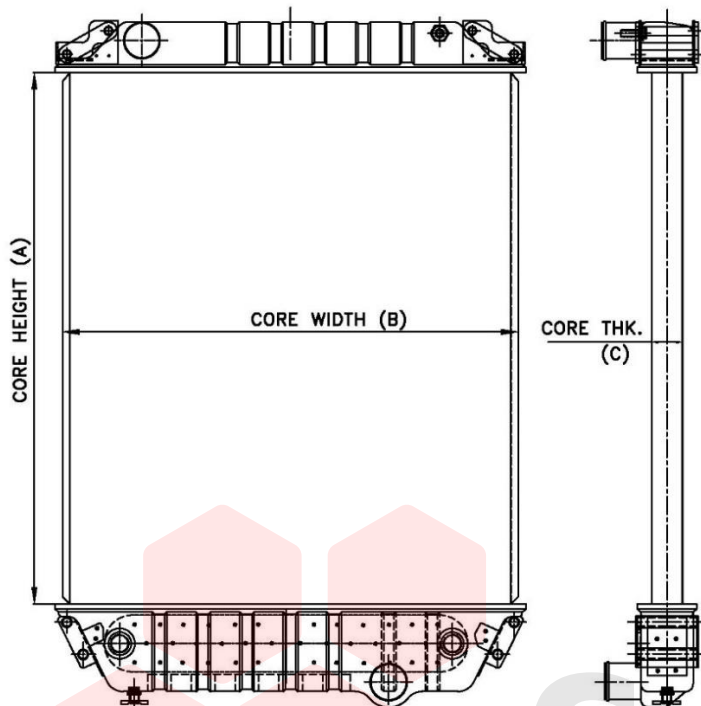
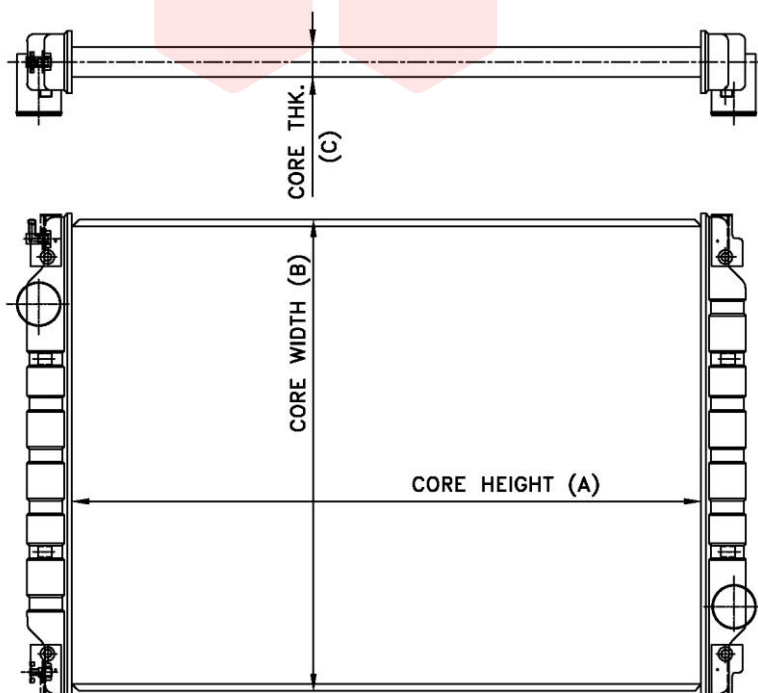

fig. 1
fig. 2
- a. Measure the height: As you can see from the diagrams, the core height on a down flow radiator is measured from top to bottom; the "height" on a cross flow radiator is measured from side to side. An easy way to remember this is that CORE HEIGHT IS ALWAYS MEASURED BETWEEN THE HEADERS, no matter how the radiator sits in the truck. Core height is represented by measurement (A) in the diagrams (fig 1 & fig 2).
- b. Measure the width: The measurement is over the side channel. The width is represented by (B) in the diagrams (fig 1 & fig 2) for both CROSS FLOW and DOWN FLOW radiators.